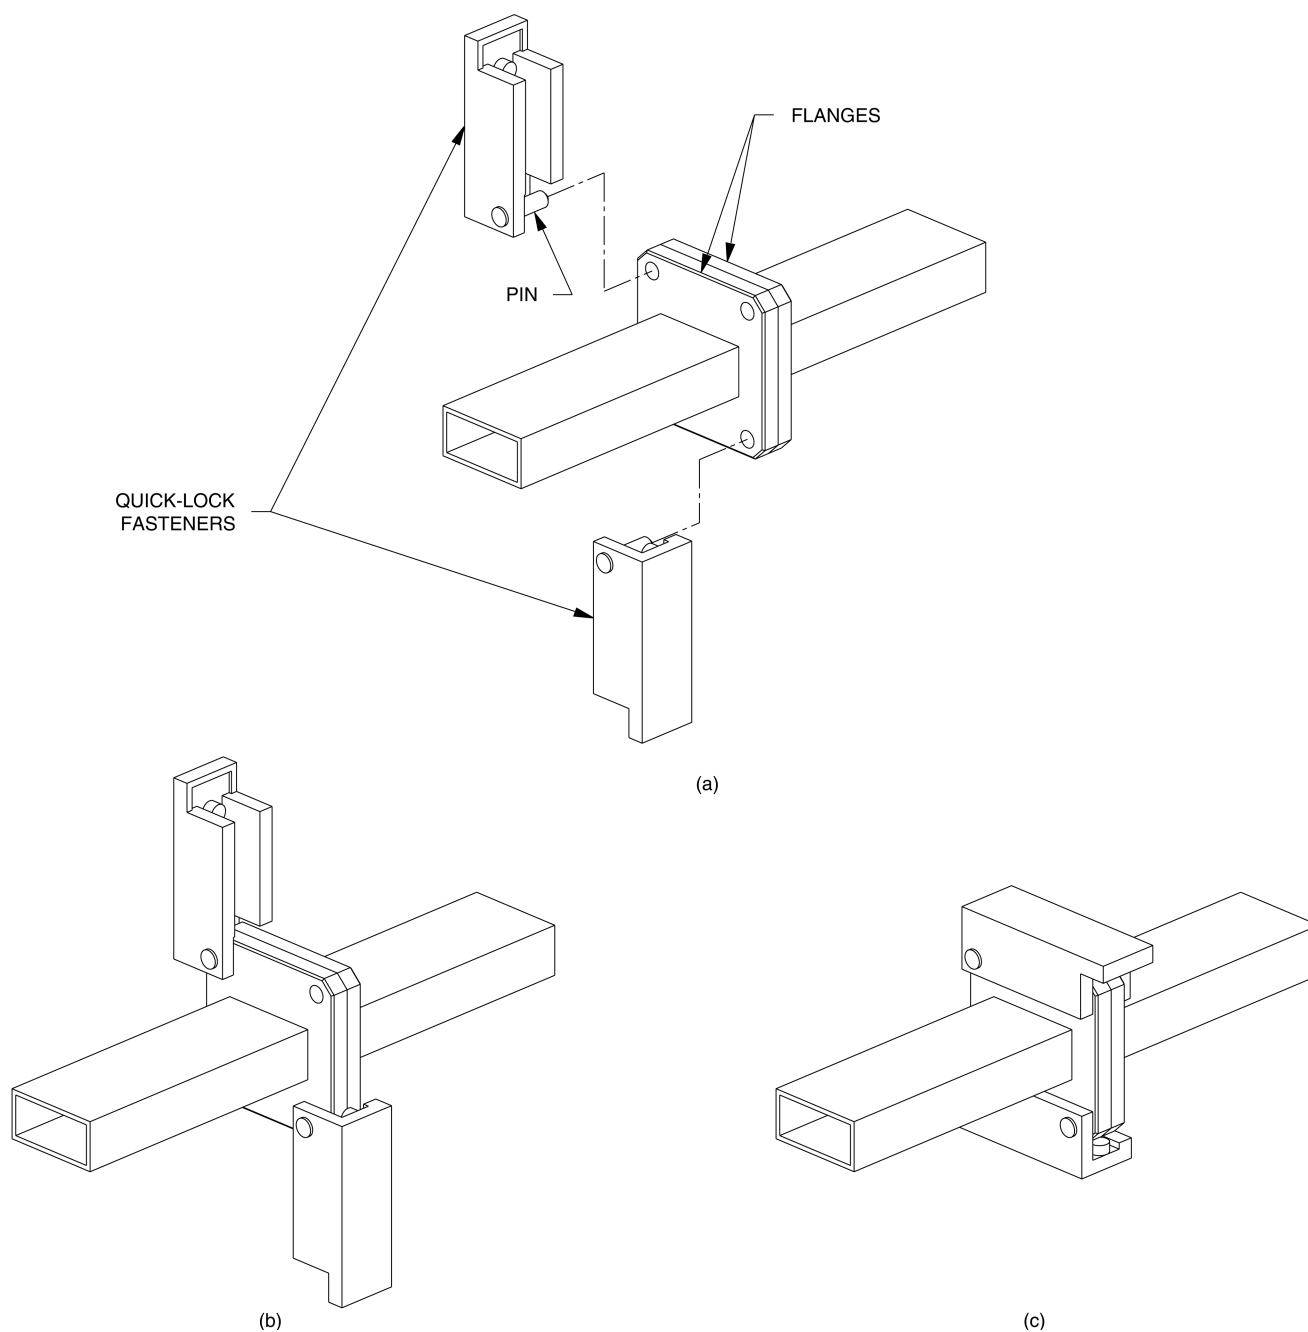

Figure 1-6. Connection of two microwave components by using the Lab-Volt quick-lock fasteners.
For short-term use, two screws or two quick-lock fasteners are sufficient to firmly connect two components together. Figure 1-6 shows the connection of two components, using the Lab-Volt quick-lock fasteners (included in your Cable and Accessories Kit, Model 9590). To connect two components together:
- Then, insert the metal pin of a quick-lock into one hole, and the pin of a second quick-lock into the hole at the opposite corner, as Figures 1-6 (a) and 1-6 (b) show.
- Finally, push the plastic pieces against the flanges, as Figure 1-6 (c) shows. The components are now firmly connected together.